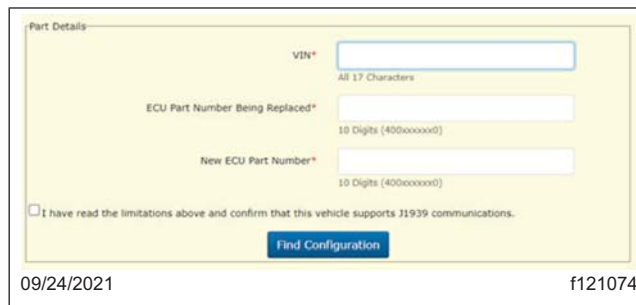

Fig. 4, Finding ABS ECU Configuration
5. Enter the VIN and the ABS ECU part number, then select 'Find Configuration.' See Fig. 4.